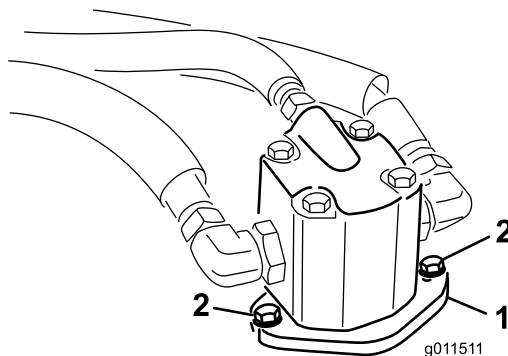

Figure 116
- Remove the bolts securing the hydraulic motor to the mower deck (Figure 116).